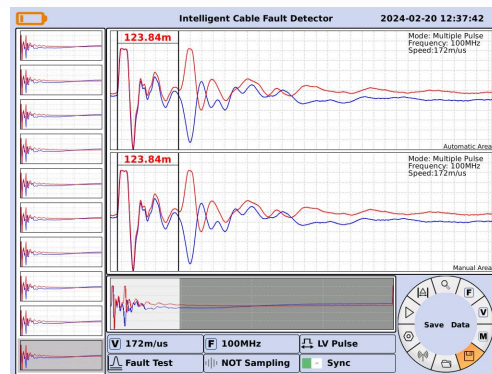

Figure 3.12 Main Menu for Saving Data Files
Select a set of data (for example, select the 8th set of data), and then, as shown in Figure 3.12, rotate the "Photoelectric Rotator ⑪" to switch the focus to . Press the "Photoelectric Rotator ⑪" to save this set of data.